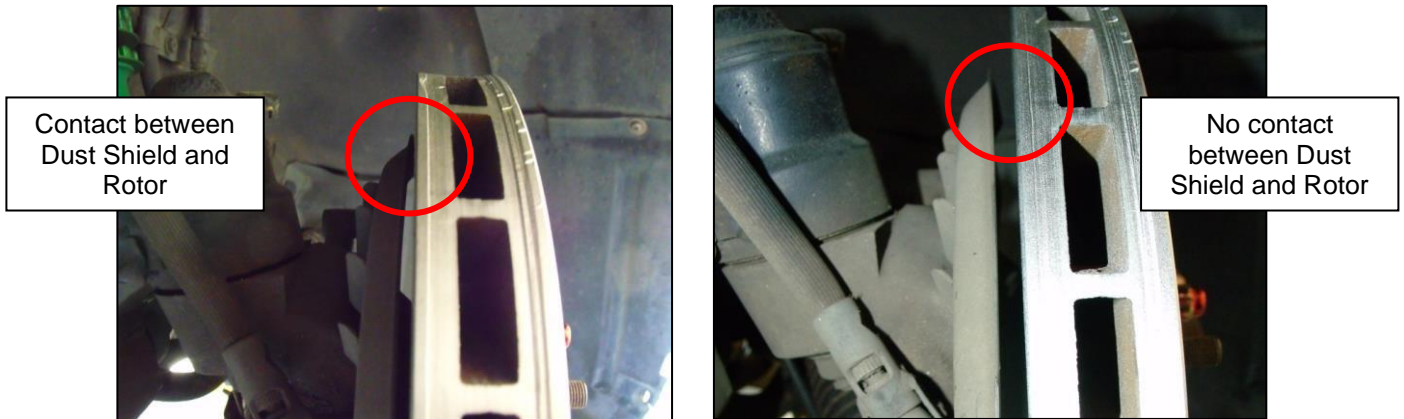

Figure 4
9. Locate the Driver Side Rotor. Install the Rotor onto the Wheel Hub. Secure with (1) one or (2) two Lug Nuts to prevent the Rotor from falling.
10. Spin the Rotor and check the gap between the Rotor and the Dust Shield. Trim or bend the Dust Shield as necessary to prevent contact. *Figure 4.*